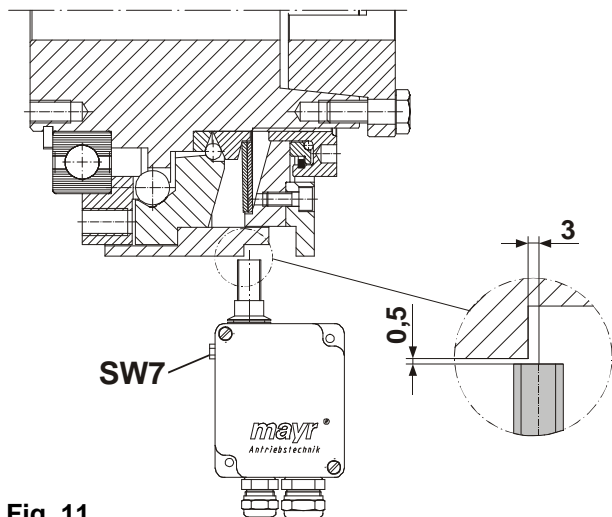

Fig. 11
In order to limit run-out times after overload has taken place, a limit switch must be mounted onto the overload clutch. The contactless limit switch is to be mounted onto the switching edge of the clutch (Fig. 11) so that no signal changes are caused during normal operation on the limit switch by the usual clutch run-out errors.
Adjust the switch distances for the contactless limit switch acc. Fig. 11. The distance of the sealing cover (13) to the switching point can be easily adjusted using a hexagon head screw, wrench opening 7.